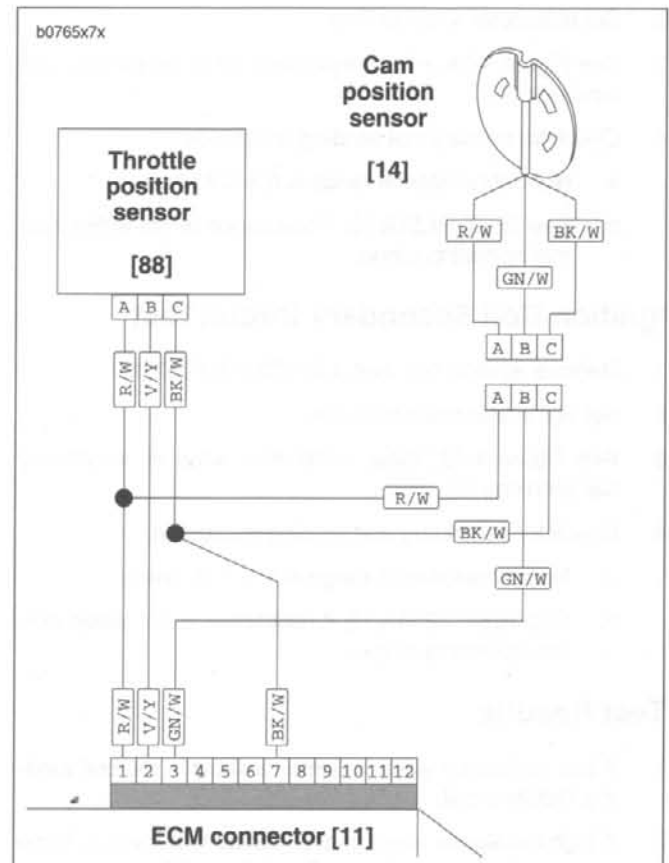

Figure 4-75. Connecting Sensor Wires
5. See Figure 4-75. Install sensor wiring terminals into correct positions in plug end of connector [14]. R/W, GN/W and BK/W wires of plug end (from cam position sensor) must match same color wires in receptacle end of connector (from ignition module wiring harness). Install pin terminals. See 7.26 DEUTSCH ELECTRICAL CONNECTORS.